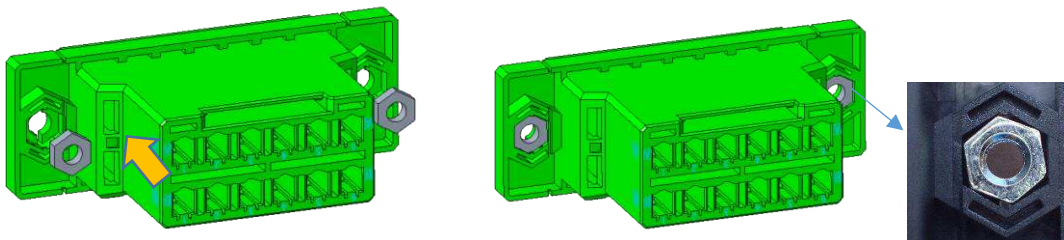

Figure 2
- I. Set the NUT at the insertion holes of connector as shown Figure 2.